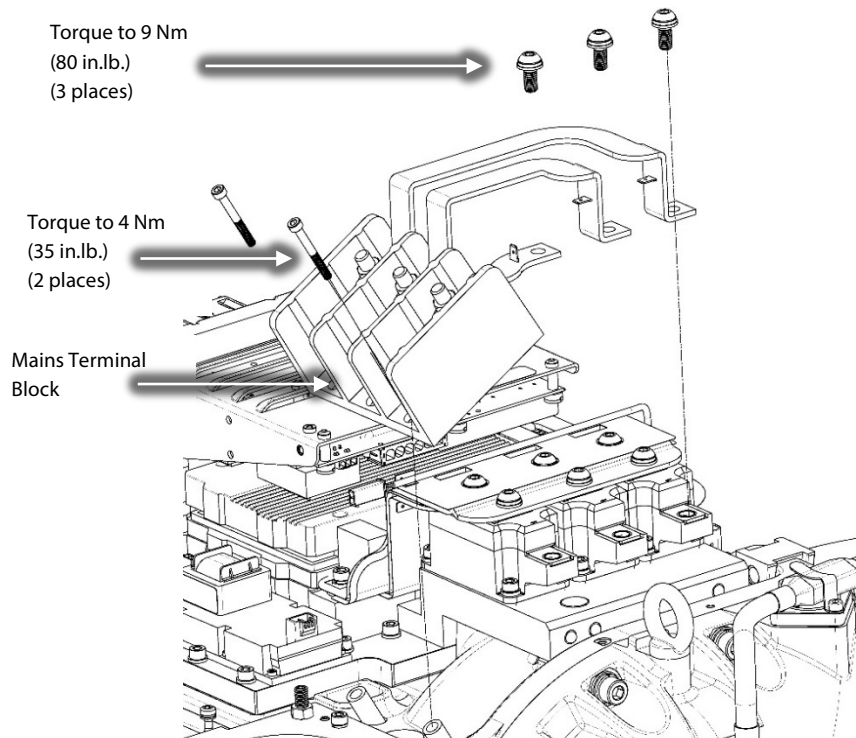

Figure 7 – AC Mains Input Terminals and Bus Bar Removal
14. Remove the AC mains input terminals and bus bars. Refer to Figure 7 (AC Mains Input Terminals and Bus Bar Removal).